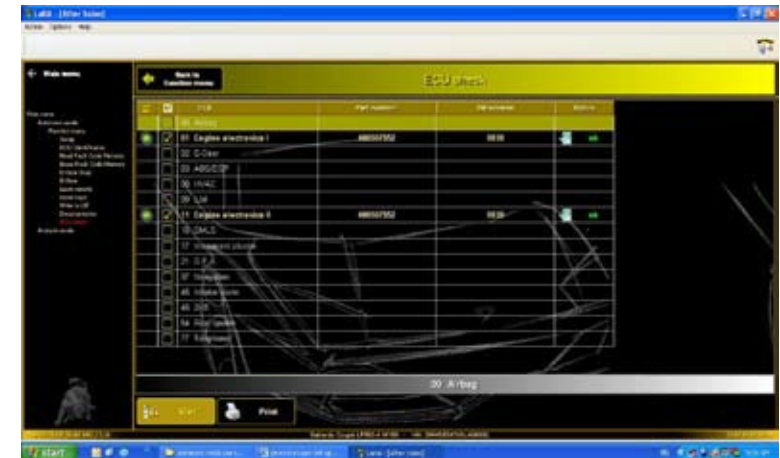

Fig.105
3. If the result is “OK”, the engine control units have been updated (**Fig.105**).